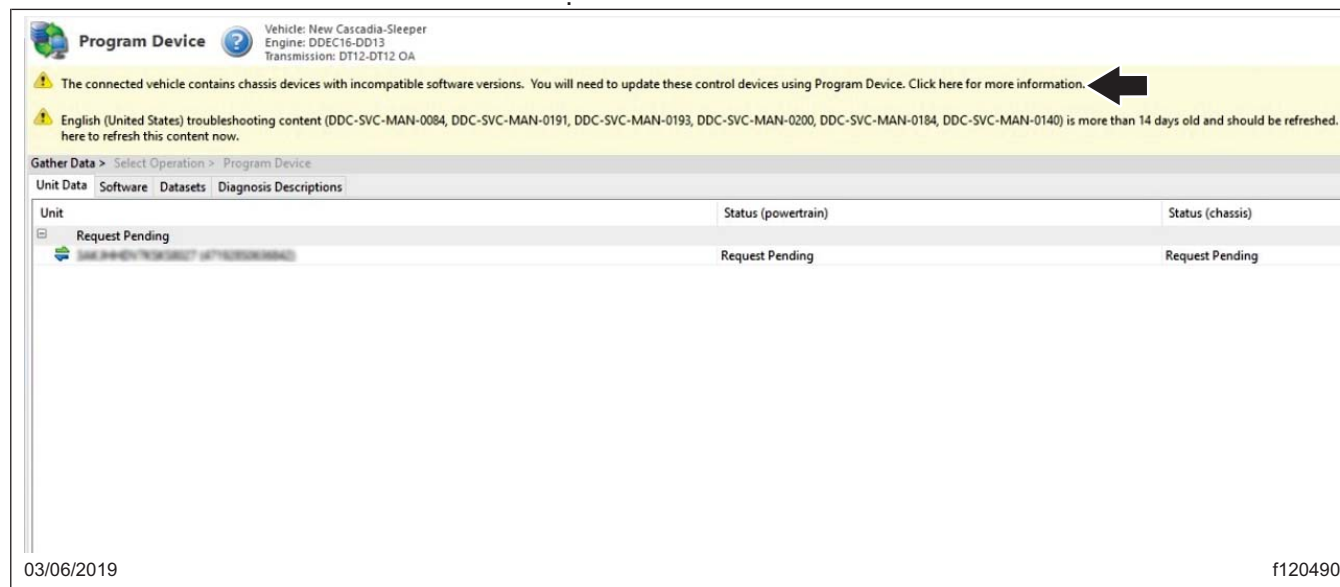

Fig. 11, Clicking on the Banner Message
15. Click on the banner message. See Fig. 11